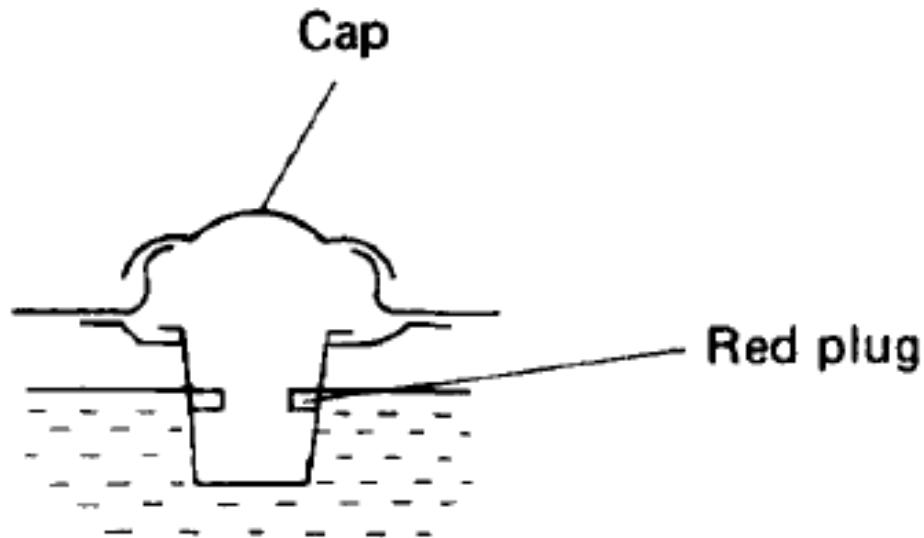

Figure 551-88L-2048_01
(2) Fill fuel tank and inspect for leaks, (refer to Figure 551-88L-2048_01)